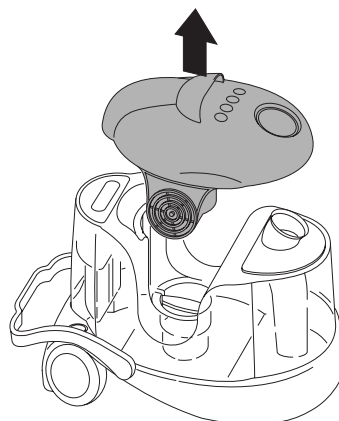

fig. 2
- Remove the motor head **F** (Fig. 2).